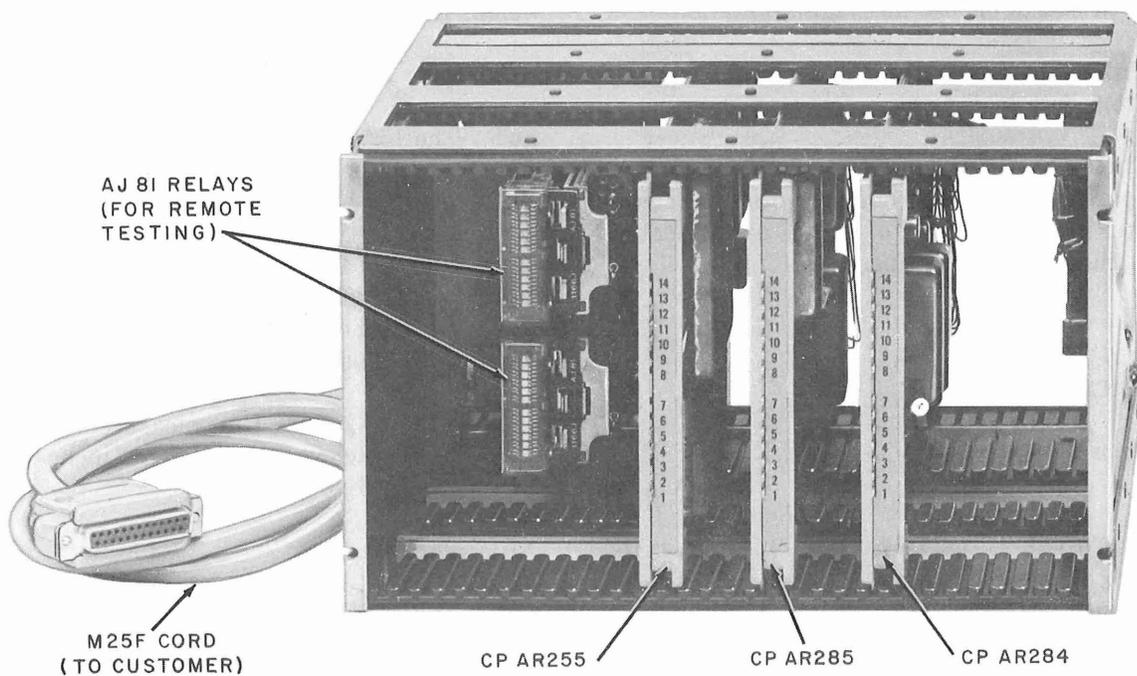

Fig. 3—15A2 Data Unit—Front View Components
2.03 The 15A2 Data Unit (Fig. 3) consists of three circuit packs (CP AR255, CP AR285, CP AR284) plugged into a frame. The frame also contains two AJ81 relays, interconnecting wiring, a connector at the rear to mate with a connector of a 3A-type Data Mounting, and a 3-1/2 foot M25F cord with attached interface connector for connecting the unit to a business machine.